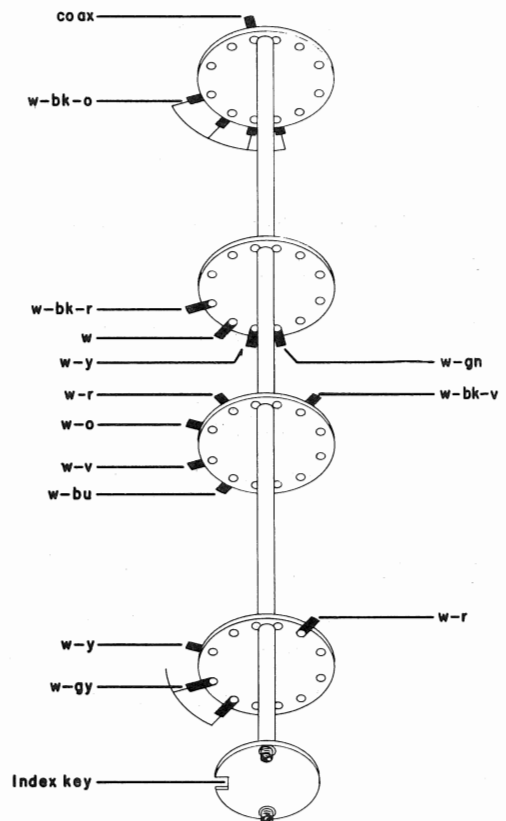

Fig 2
- 8. Solder the wires to the switch as indicated below (see Fig 2):